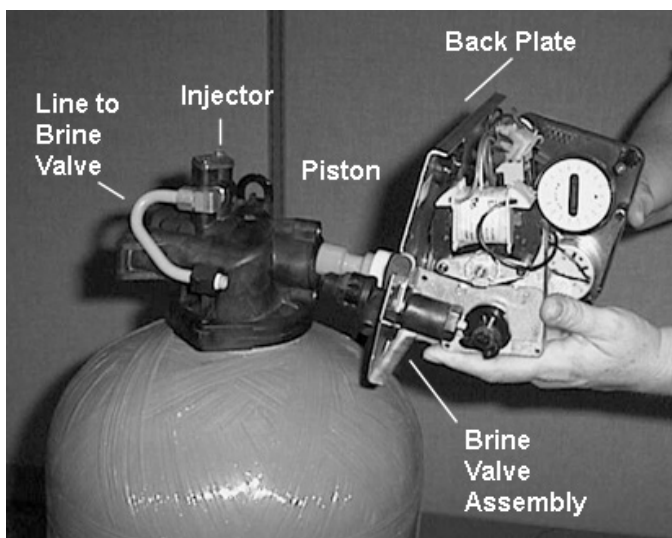

Figure 6
5. Grasp the back plate on both sides and slowly pull end plug and piston assembly out of the valve body (see "Figure 6") and lay aside.